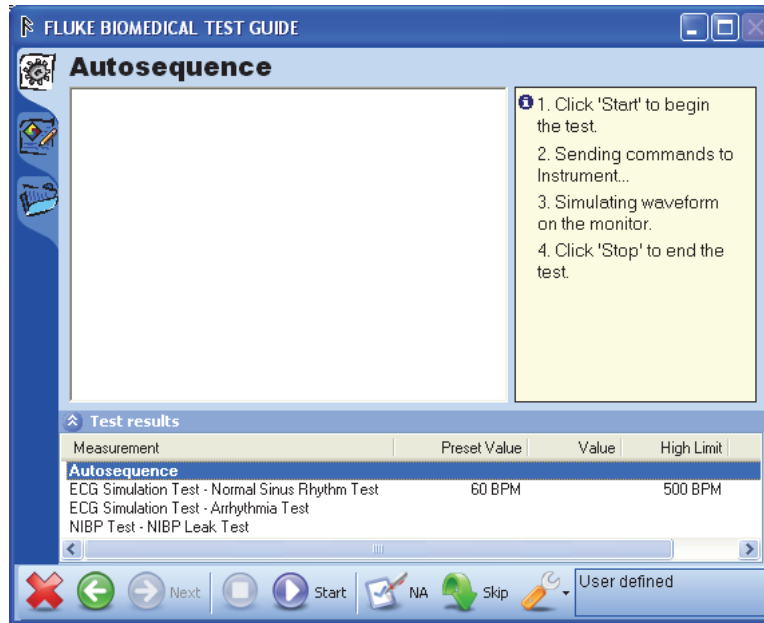

Figure 3-9. Autosequence Test Guide
- Click **Test | Start Test** on the menu bar to show the Test Guide window shown in Figure 3-9.